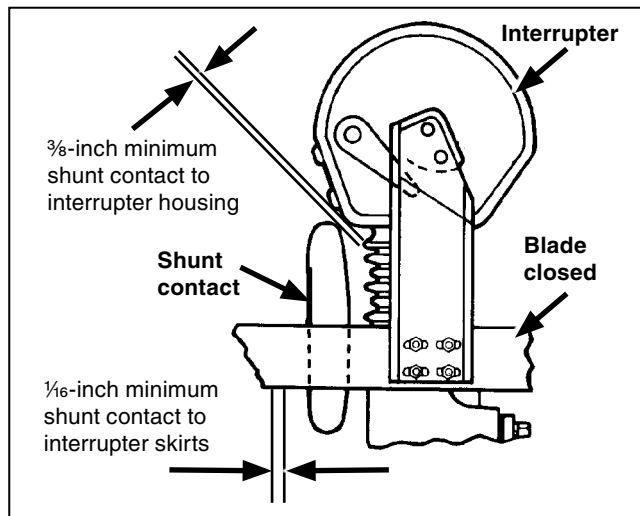

Figure 23. Withdrawing locking bar and disengaging key interlock bolt.
- With the switch in the fully **Closed** position, verify the minimum clearances between the blade-shunt contact and the interrupter, measured to the interrupter housing as well as the interrupter skirts. See Figure 23 on page 19.